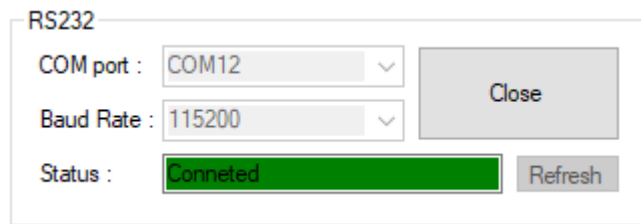
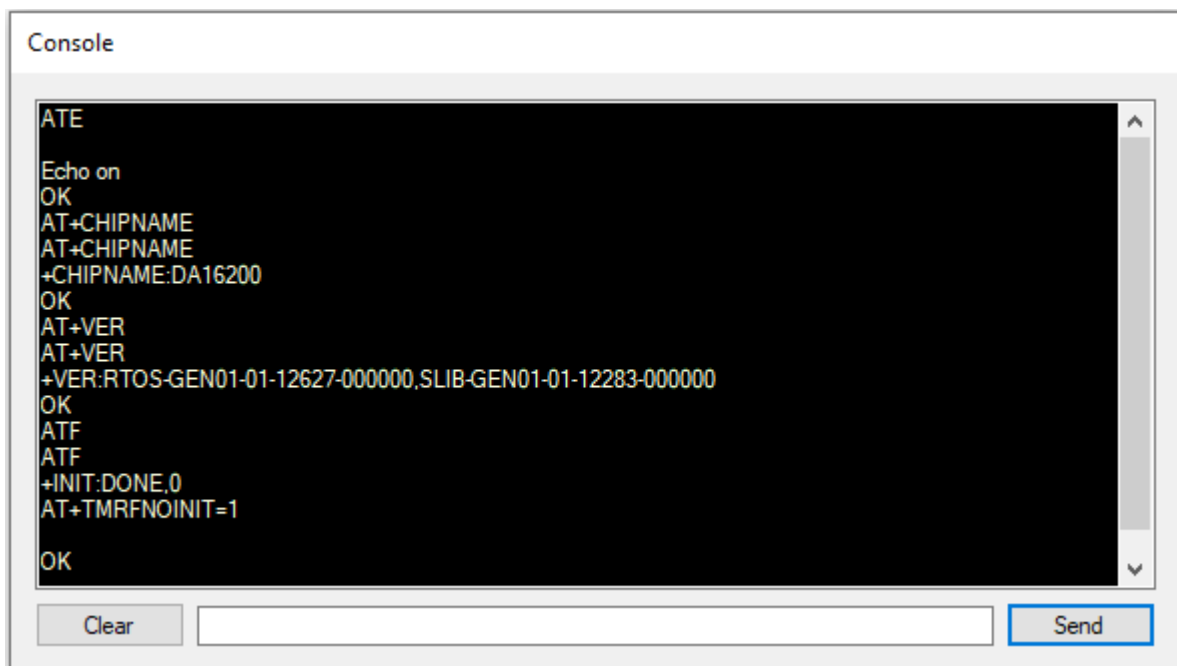

Figure 5: RS232 Setup – Connected
Figure 6: Debug Console – Connected
2. Select a COM port and click the **OPEN** button and wait for a few seconds. See Figure 5 and Figure 6.